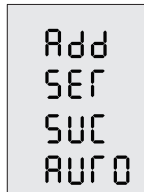

Figure 5-8
Step5: After pairing, the LCD panel will display as Figure 5-8 for 5s, then returning to home page automatically.